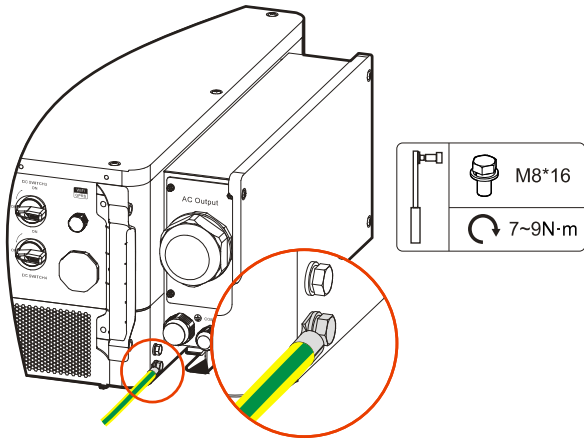

Figure3-27 Schematic diagram of the ground connection
Step 2 Connect the crimped grounding wire to the external grounding terminal at the bottom of the inverter, as shown in Figure3-27.